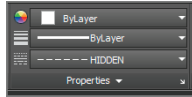

FIGURE 6.24 The Properties panel settings affect all the objects you create.
1. Open the Linetype drop-down menu on the Properties panel, and select Hidden (see Figure 6.24). Draw a line of arbitrary length anywhere on the canvas.